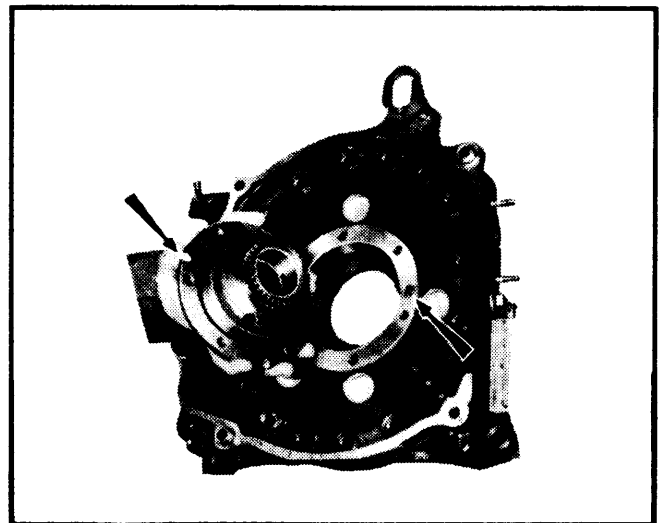

Fig. 9 Stationary Gear Slot & Dowel Alignment
7) Place stationary gear in a press, use same mandrel and press main bearing out of stationary gear. Install new bearing while aligning tang of bearing with slot of stationary gear. Press bearing into gear until adapter of mandrel just contacts stationary gear flange. Drive stationary gear into housing with same mandrel. Align dowel pin on housing with slot in gear flange, (Fig. 9). Tighten stationary gear retaining bolts.